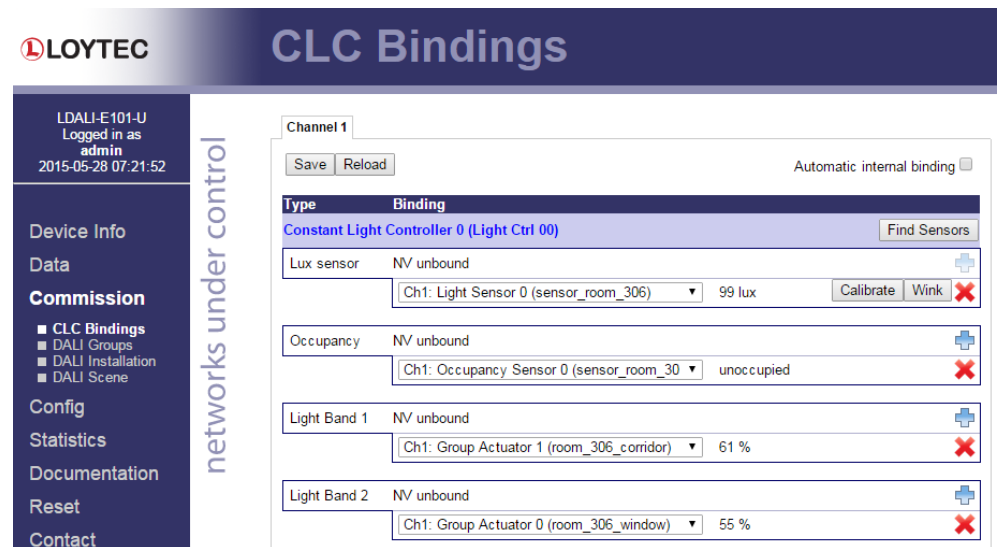

Figure 35: DALI Installation Web Interface: CLC Bindings.
- To determine which sensors (occupancy & lux) are used as inputs to and which light groups are controlled by a constant light controller instance go to the **CLC Bindings** page (see Figure 35).